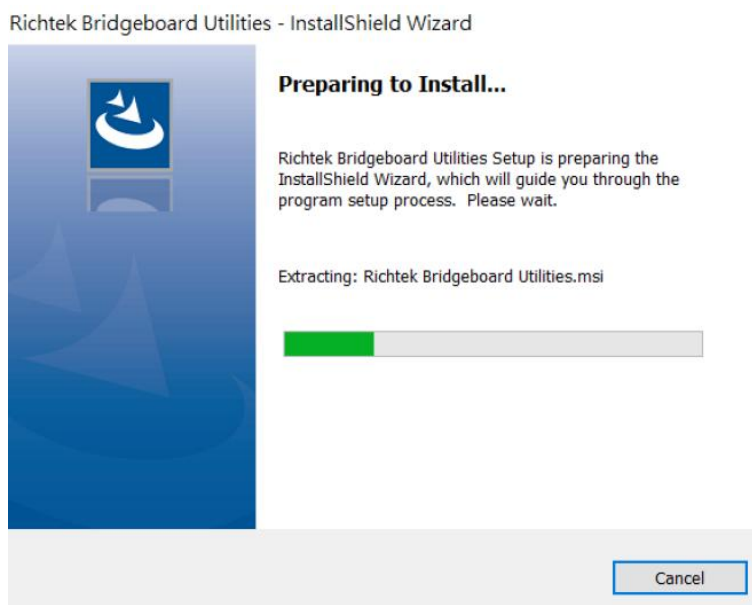

Figure 4. Driver Installation Step 4
Step 4: The installation will continue at this point. Wait for the installation process to proceed further, as shown in Figure 4.